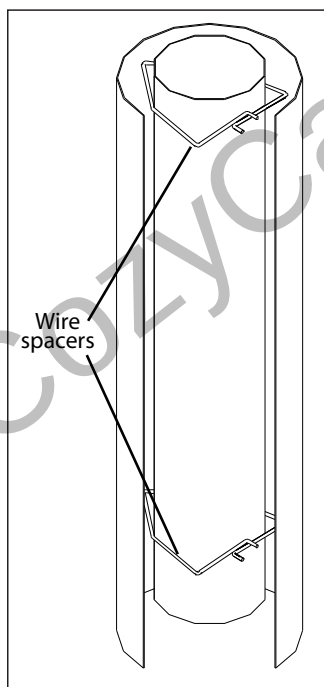
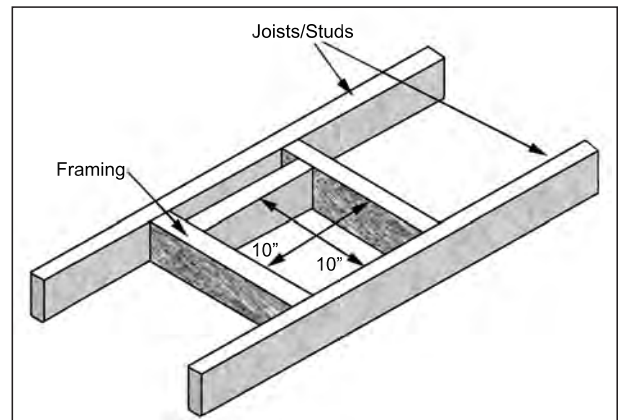
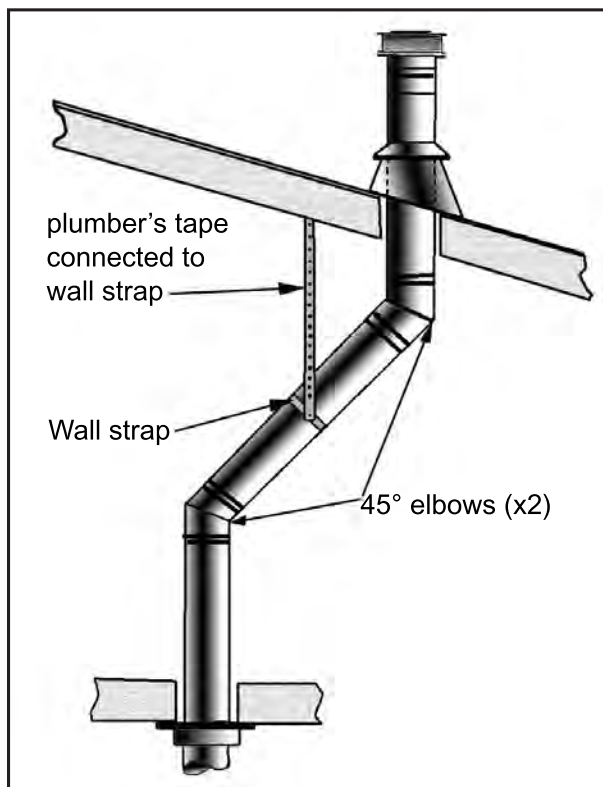
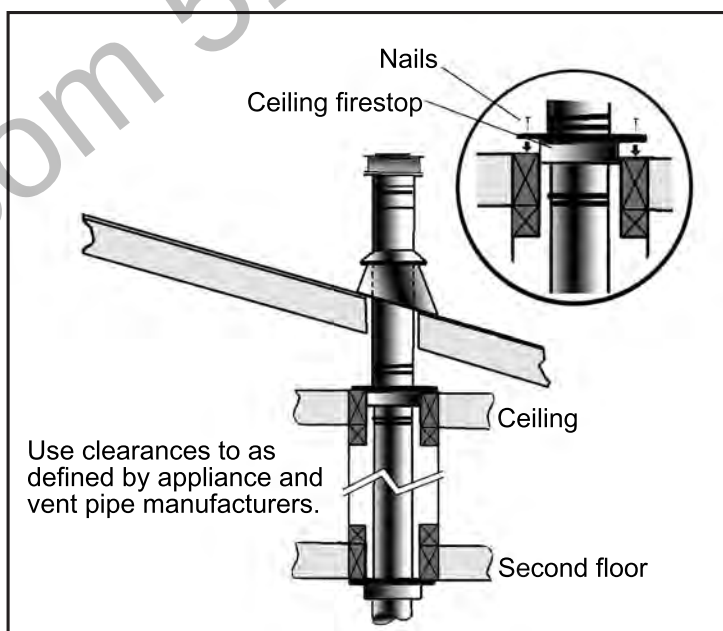

Figure 31: Wire Spacers.
Figure 35. Vent Framing Through the Wall or Ceiling.
Figure 41. Use of Wall Straps.
Figure 42. Multi-Story Vent Pipe Installation.
4. Frame the hole as shown in Figure 35.
5. Trim the wall thimble to match the wall thickness as necessary. Install the wall thimble and secure it to the inner wall frame using four (4) 1½" wood screws. If a wall is greater than 8" (203mm) in depth, the clearance above the flex must be 4¾" (111mm)
8. Slide the Ø6⁵/₈" (16.25 cm) flex intake liner over the flex vent. Install four (4) wire spacers around the flex pipe. Ensure the wire spacers are positioned at either end of the pipes, and at each end of any elbows in the liners (refer to Figure 31 and 32).
A 1 inch (25 mm) clearance to combustibles must be maintained around any vertical vent pipe. Around a horizontal vent pipe, the clearance to combustibles should be 2 inches (50 mm) for rigid & 3 3/8 inches (86 mm) for flex above, and 1 1/2 inches (38 mm) on the sides and bottom. When combustible materials are directly above a 90° elbow & above the unit, 8 inches (203 mm) of clearance are necessary; when not the elbow is not above the unit, 3 inches (76 mm) for rigid pipe & 3 3/8 inches (86 mm) for flex pipe. A 10 inches (250 mm) x 10 inches (250 mm) frame (see Figure 35) will assure the proper support and spacing for a vent pipe through the ceiling or as it passes through the wall [up to 8 inches (203mm) for flex pipe]. Installations in Canada require that a wall thimble be used for passing through walls and ceilings. All sealing and vapour barriers must comply with local building codes.
Figure 31 shows the range of venting options, it shows possible vent configurations if the unit is top vented, for vertical and horizontal terminations, any layout that remains within the shaded area is acceptable. Having the fewest number of elbows is ideal, as they tend to disrupt air movement. Using 45° elbows is preferable to using 90° elbows. Also, a shorter vent system will perform better than a longer one.
Step 3. With the pipe in the correct position and attached to the fireplace, mark the wall for a 10 inches (25.4 cm) x 10 inches (25.4 cm) square hole (see Figure 35). The center of the hole should match the center line of the horizontal pipe. Cut and frame the hole in the exterior wall where the vent will be terminated. If the wall being penetrated is made of a non-combustible material (i.e. masonry or concrete) a 7 inches (17.8 cm) hole is acceptable.
Step 3. To install the Round Support Box/Wall Thimble in a flat ceiling, cut a 10 inch (25.4 cm) square hole in the ceiling, centered in the hole drilled in Step 2. Frame the hole as shown in Figure 35.
- (1) If an offset is necessary in the attic to avoid obstructions, it is important to support the vent pipe every 3 feet (914 mm), to avoid excessive stress on the elbows, and possible separation. Wall straps are available for this purpose (see Figure 41).
- (2) When ever possible, use 45° degree elbows instead of 90° degree elbows. The 45° degree elbow offers less restriction to the flow of flue gases and intake air.
- (3) For multi story installations; a ceiling firestop is required at the second floor, and any subsequent floors (see Figure 42). The opening should be framed to 10" (254 mm) x 10" (254 mm) inside dimensions, in the same manner as shown in Figure 35.
- (4) Any occupied areas above the first floor, including closets and storage spaces, which the vertical vent passes through, must be enclosed. The enclosure may be framed and sheet-rocked with standard building materials. However consult the appliance manufactures installation instructions for the minimum allowable clearance between the outside of the vent pipe, and the combustible surfaces of the enclosure. Do not fill any required air spaces with insulation.